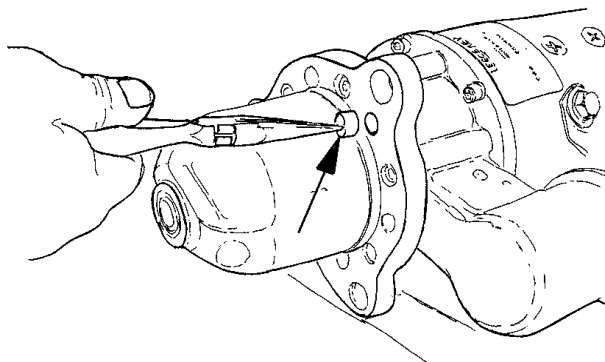

Figure 6 - Installing Rubber Seals (Arrow)
10. Remove the rubber seals from the old nose cone and install into the unused bolt holes in the new nose cone (Figure 6).